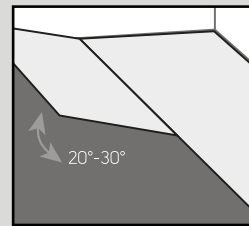

Fig. 3
- Start the second row by clicking the tongue into the groove holding the plank at an angle (approximately 30°), then tap the plank/tile firmly into the groove of the first row (Fig. 3).